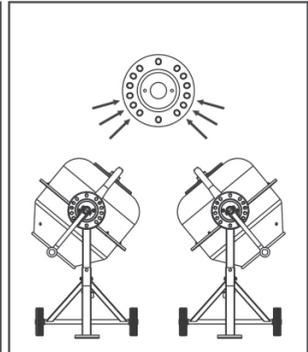

Fig.15
- Unload the drum as shown in Fig.15.